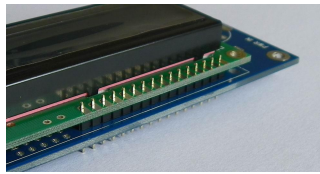

Fig. 7
- 2) Place LCD module on the PCB and align to the pin header. Ensure it sits flat. (See Fig. 7)